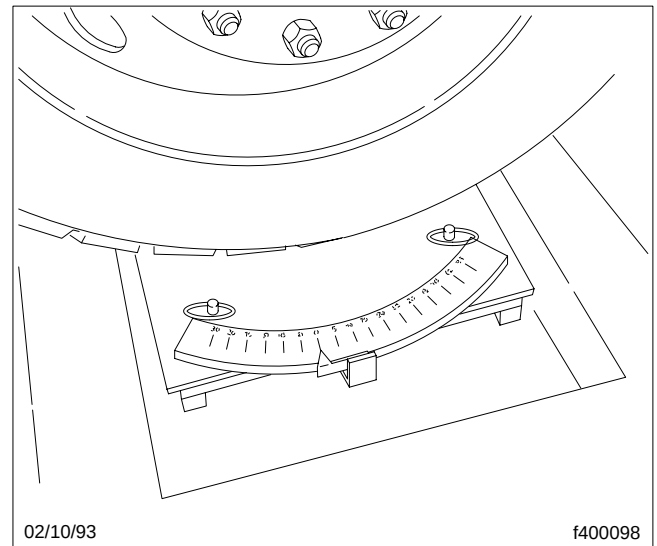

Fig. 2, Turn-Plate (Turntable), Stationary Type
2. If using stationary turn-plates or turntables (**Fig. 2**), drive the vehicle on the plates; the tires must be exactly straight ahead. Apply the parking brakes.